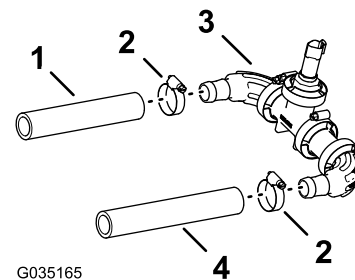

Figure 58
- Assemble the hose (1 x 7-1/4 inches) onto the barbed elbow fitting of the pressure transducer and manifold as shown in Figure 58.
- Secure the hose and barbed fittings with a hose clamp (Figure 58).
- Assemble the hose (1 x 8-1/2 inches) onto the other barbed elbow-fitting of the pressure transducer and manifold as shown in Figure 58.
- Secure the hose and barbed fitting with a hose clamp (Figure 58).